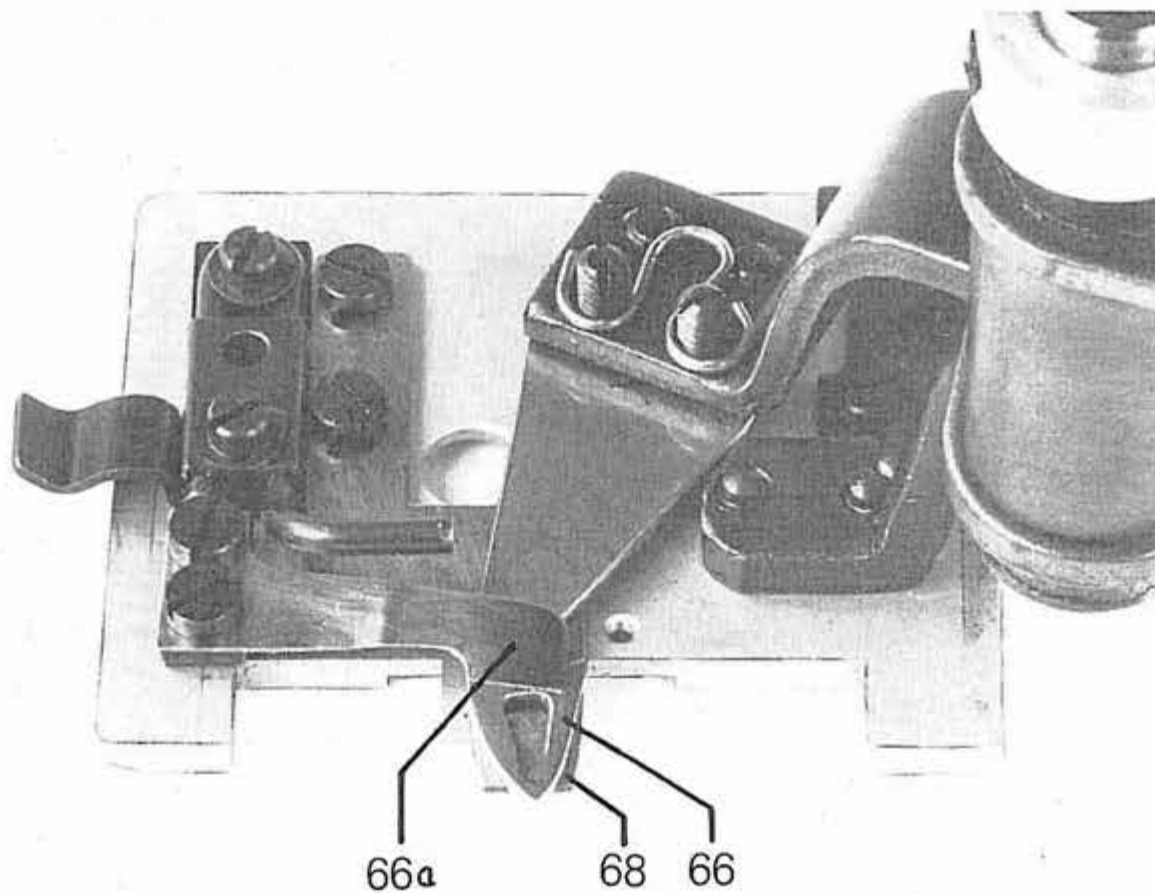

Fig. 65
5. Set the counter knife 68 (fig. 65) so that the cutting edge of the hook shaped knife 66 stands against the middle of the cutting edge of the counter knife. See fig 65. Do not modify the measure of 56.5 mm.
7. Set the sheet 66a (fig. 65) as to insure safe thread clamping.